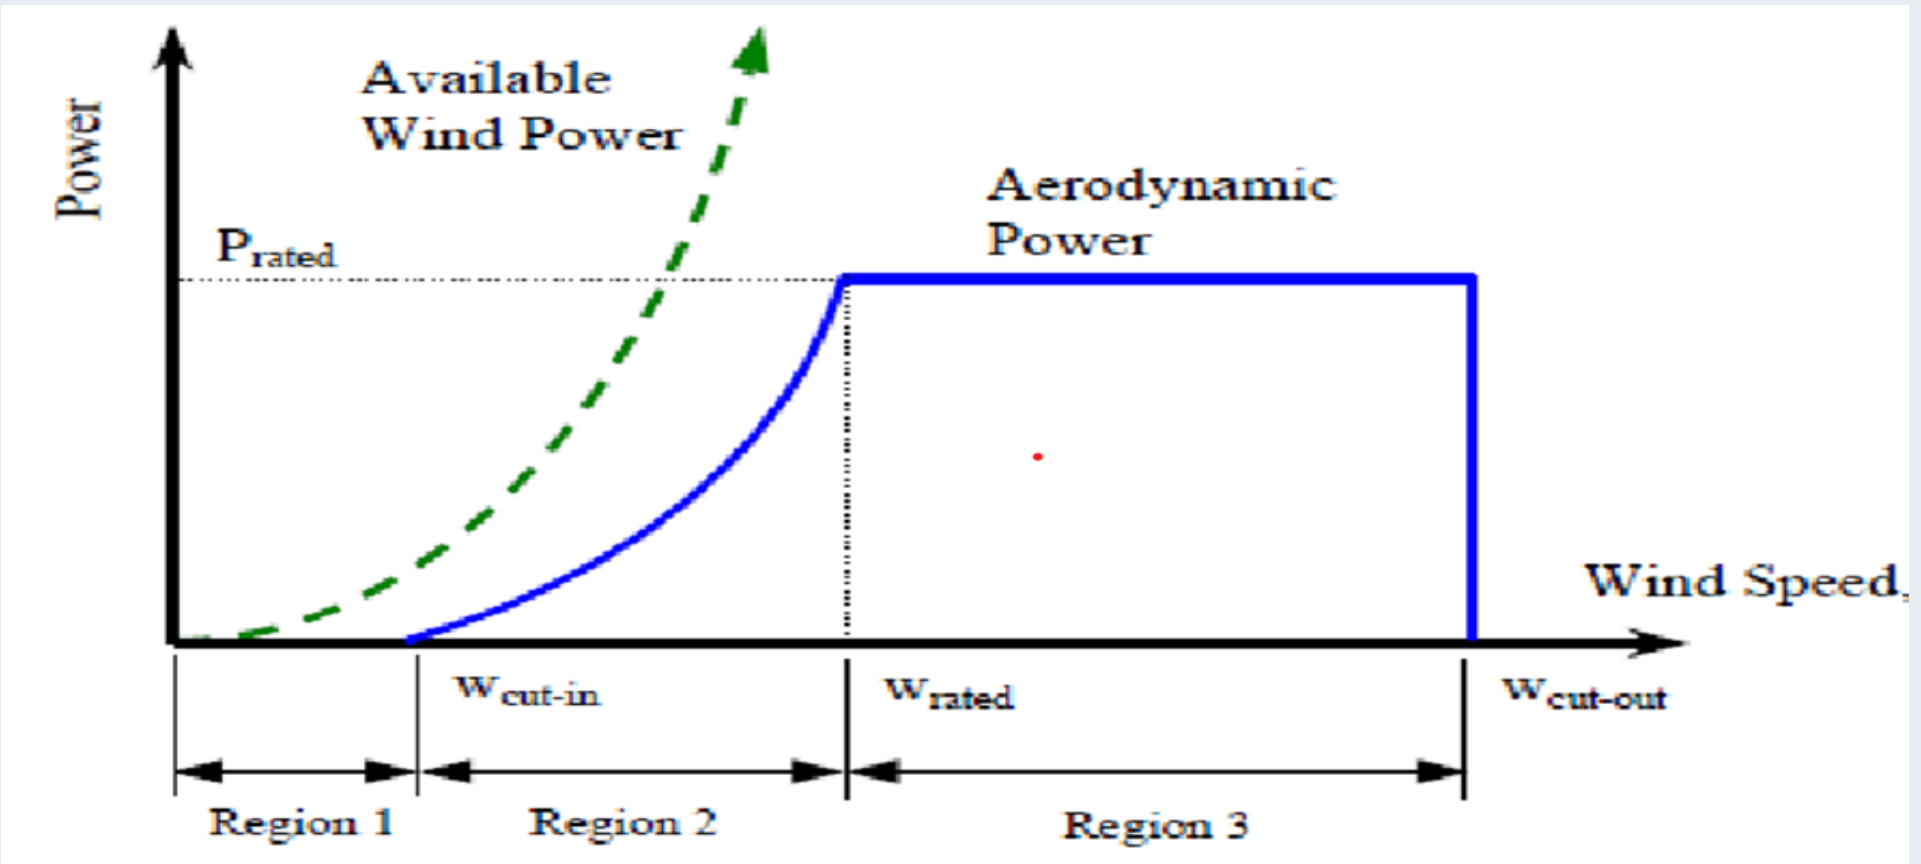

Figure 6. wind power operating regions. Source: www.semanticscholar.org
- Pitch and yaw control are other names for turbine rotation and blade angle adjustment, respectively. The wind power is regulated based on the operating characteristics of wind power as presented in Fig.6[2].